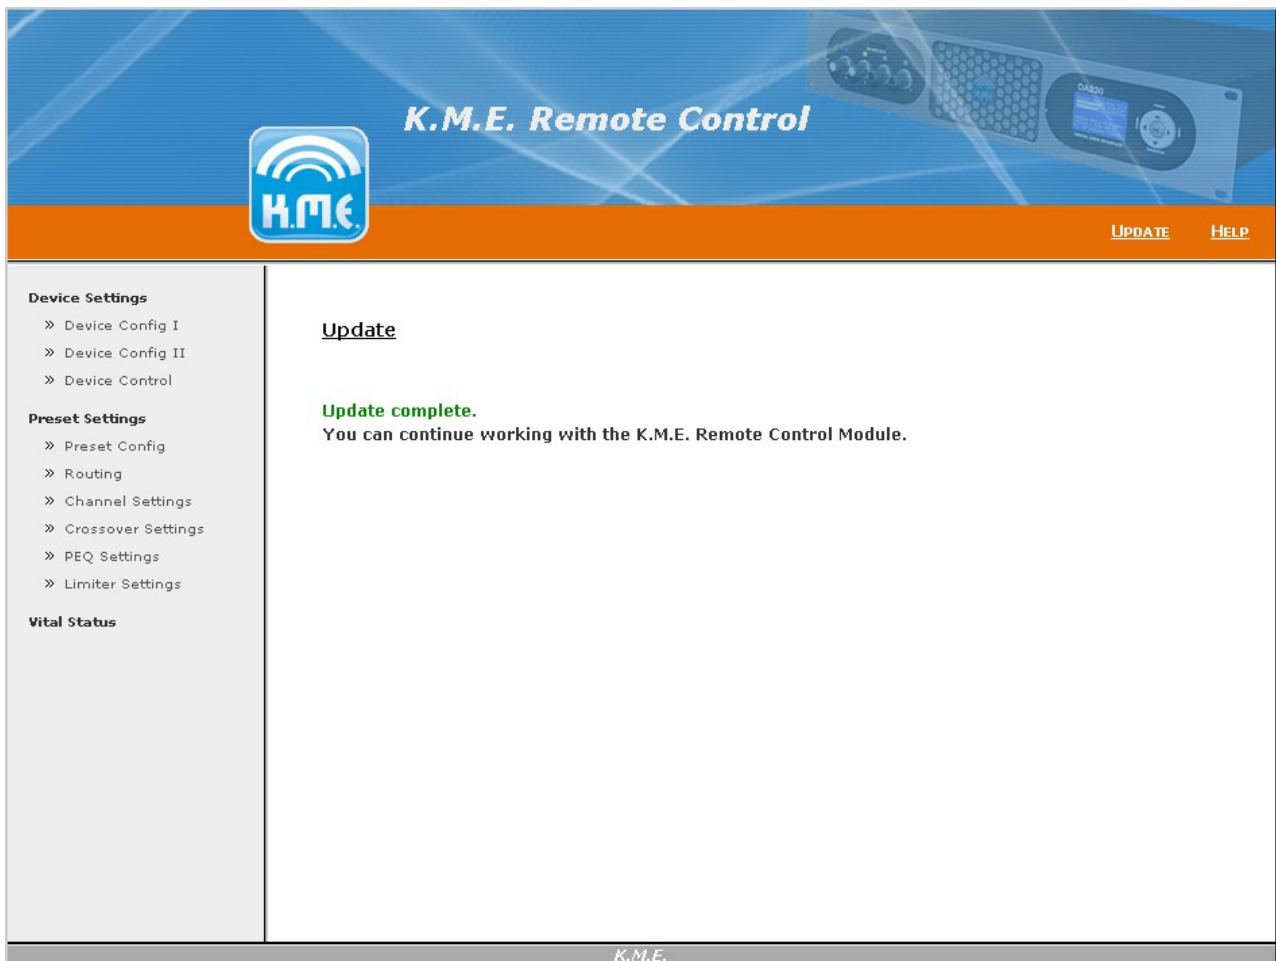

Figure. 5: The Update was successfully completed
**Please wait until the module has finished the entire update (see figure 5).**